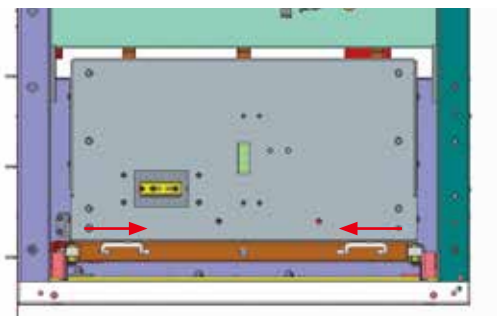

Figure 6.16: Push the two sliding cranks inward
- Push the two sliding cranks inward under the truck and push VT truck into switchgear. (See figure 6.16).